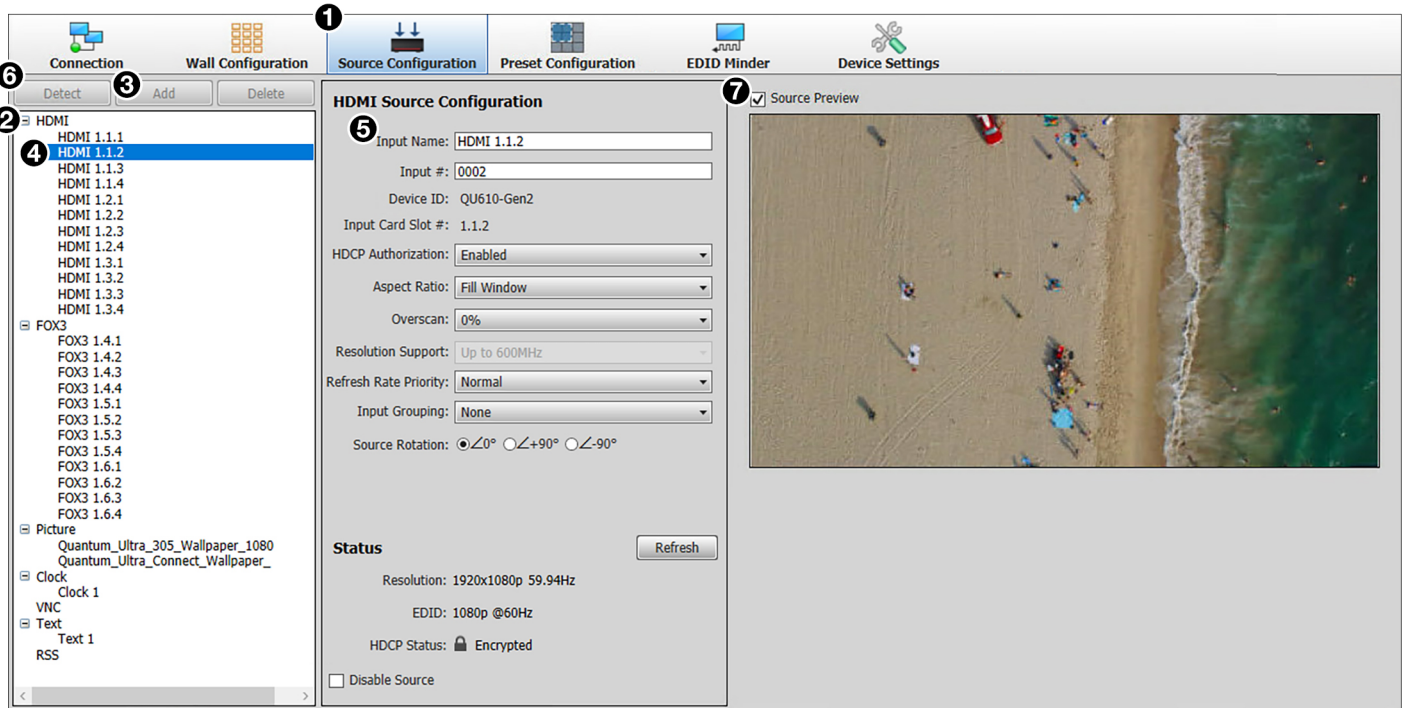

Figure 5. Source Configuration Window (HDMI Source Example)
- On the taskbar, click the **Source Configuration** button (see figure 5, 1 on page 9) to display the Source Configuration screen.
- Select a source type.** In the Source Configuration Tree (left panel), click a source type to add (2). Depending on the cards installed in your unit, HDMI, FOX3, and IP Source may be listed. Picture, Clock, VNC, Text, and Really Simple Syndication (RSS) source types are always available for configuration.
- Add a source.** Click Add (see figure 5, 3) to add a source of the selected type, or right-click the source type to add and select Add from the pop-up menu. One or more source names are added in the Source Tree below the source type (4).
NOTE: The number of sources added depends on the cards installed in the unit. For example, if two HDMI input cards are installed, selecting HDMI displays eight source names, as shown in figure 5.